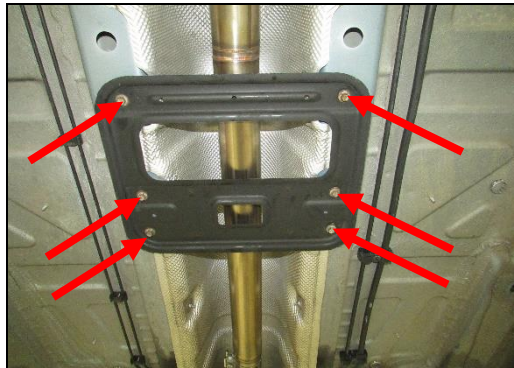

Figure 6
2. Install the cross brace tighten (x6) 10mm bolt heads (**Figure 6**).